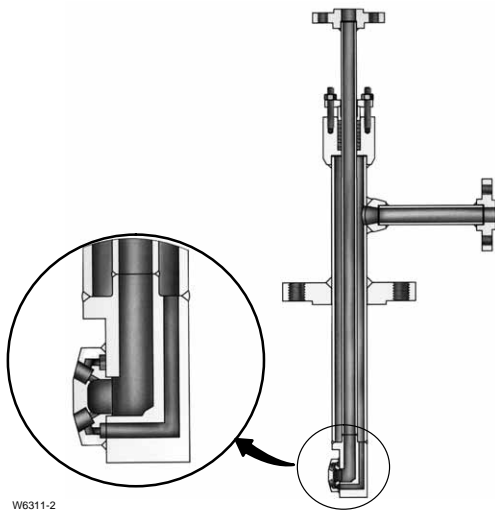

Figure 3. Design DSA Desuperheater
• **Design DSA**—The Design DSA desuperheater uses high-pressure steam for rapid and complete atomization of spraywater in low-velocity steam lines. This desuperheater (figure 3) is installed through a flanged connection on a DN200 (8-inch) or larger pipeline. This desuperheater is intended for applications requiring high rangeability. Maximum unit C_v is 9.97.